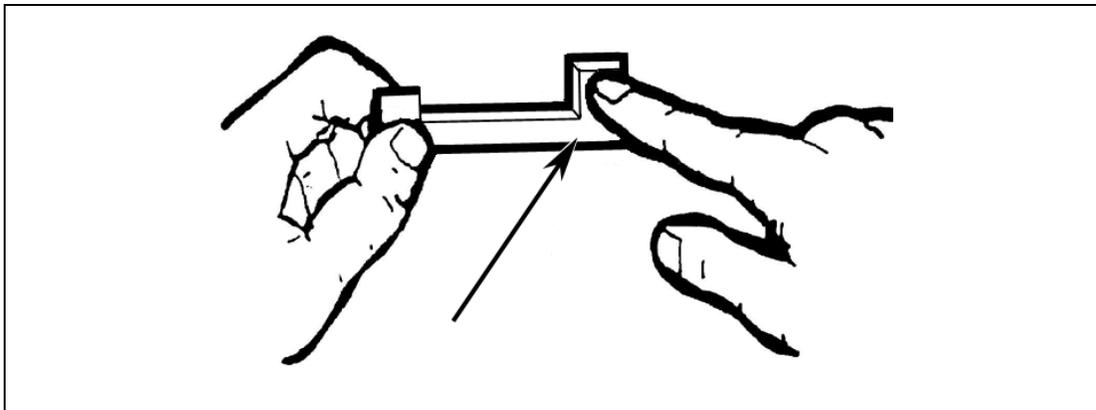

Figure 4-1. Printer Ribbon Installation
- c. Gently lift the left side of the spindle from the printer assembly (Figure 4-1).